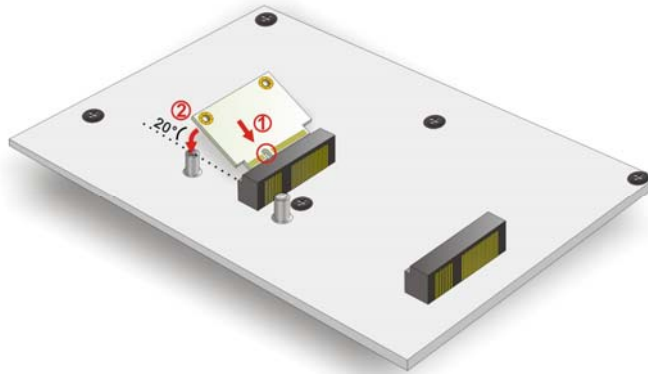

Figure 4-14: Insert the Half-size PCIe Mini Card into the Socket at an Angle
Step 3: Insert into the socket at an angle. Line up the notch on the card with the notch on the connector. Slide the PCIe Mini card into the socket at an angle of about 20° (Figure 4-14).